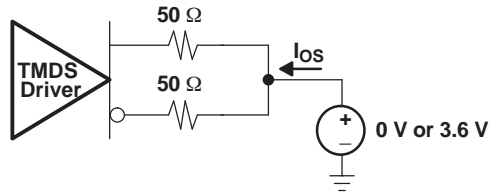

Figure 3. Short Circuit Output Current Test Circuit
| I (OS)                      | Short circuit output current  | See <a href="#">Figure 3</a>   |                    | -12                   | 12                    | mA |